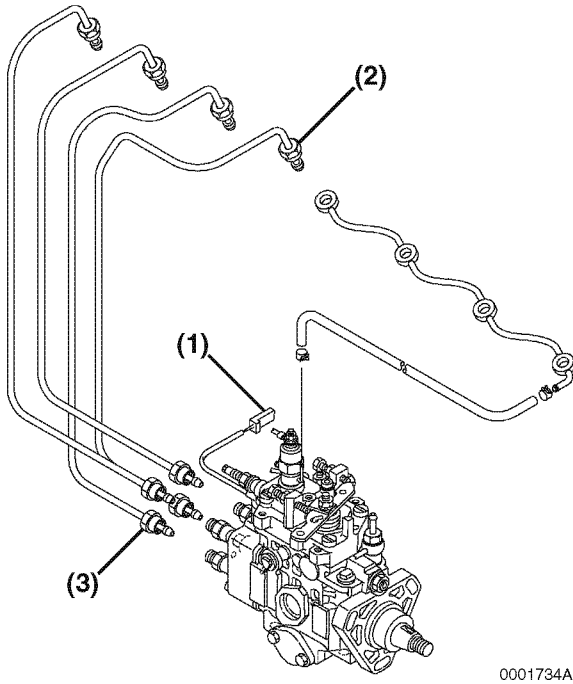

Figure 7-41
4. Disconnect the electrical connection to the magnetic valve (stop solenoid) **(Figure 7-41, (1))**.
- First loosen the high pressure fuel line nuts **(Figure 7-41, (2))** at the fuel injectors.
- Then loosen the high pressure fuel line nuts **(Figure 7-41, (3))** on the fuel injection pump.